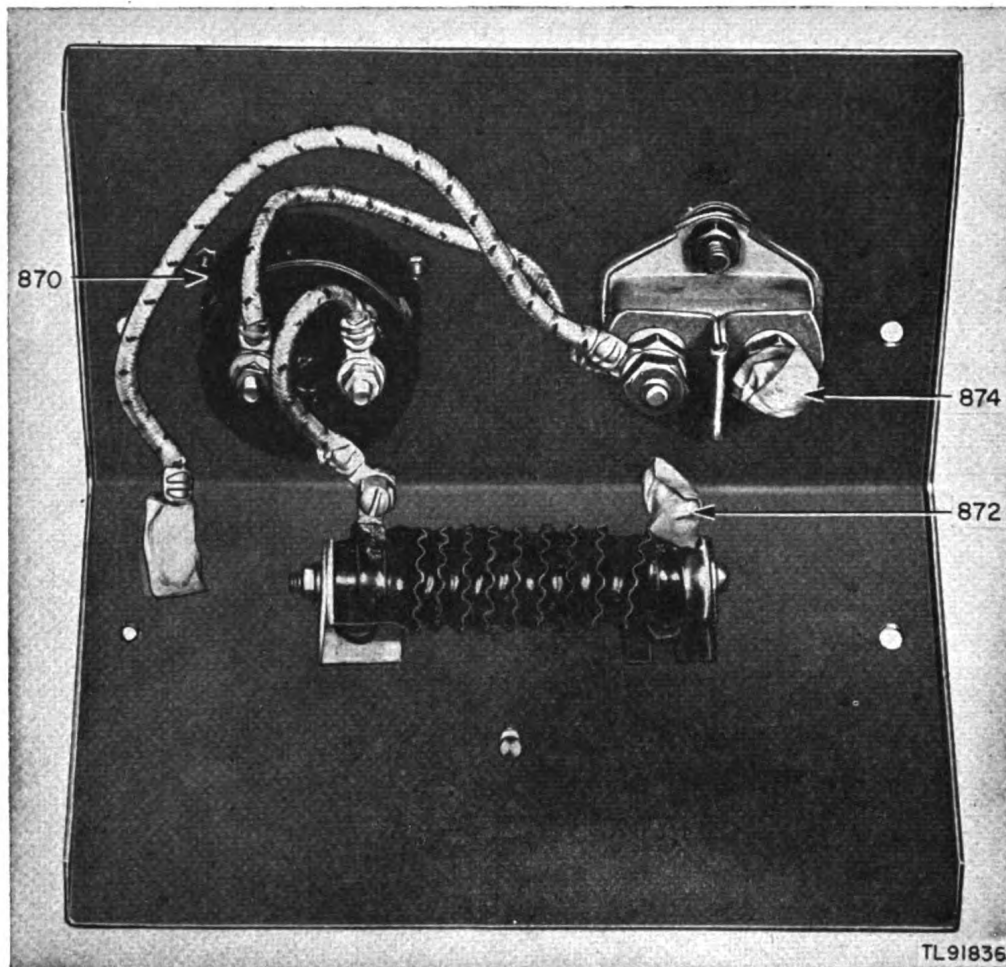

Figure 51. Control box for Power Units PE-49-F and PE-49-G, interior of top cover—showing parts masked.
(7) Tape connecting lugs on the disconnected lead in top cover of control box, the exposed contact on the battery charging dropping resistor (fig. 51 (872)), and the exposed contact on the starter-switch terminal. (See fig. 51 (874).)
(2) Spray inside of top cover of control box and all attached components. (See fig. 51.)
(3) Spray inside of control box cover.
(4) Hand brush the joint in ammeter where the back plate and ammeter case join. (See fig. 51 (870).)